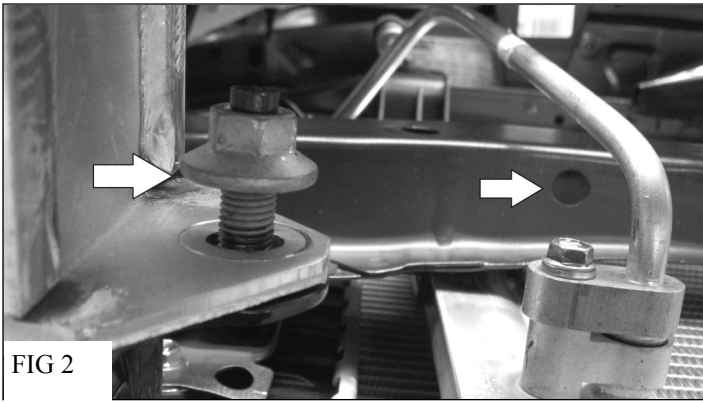
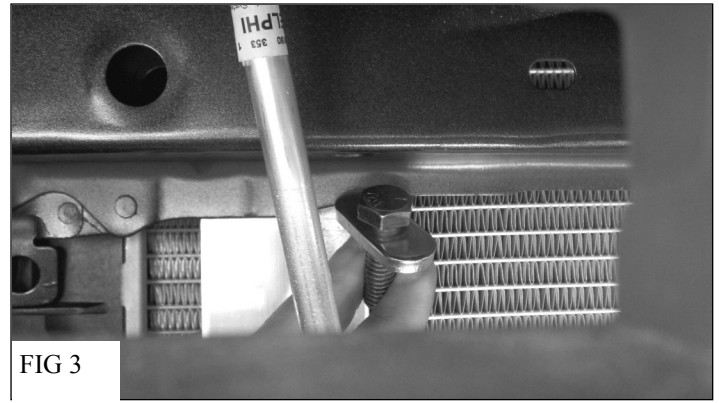

FIG 2
FIG 3
2. Locate the passenger side front bumper support and using a 14mm deep socket remove the flange nut from the driver side of the support. Do not discard. (fig 2)
3. Insert the supplied bolt plate into the hole indicated in fig.2 by passing it between the A/C condenser and radiator cross member. (fig 3)